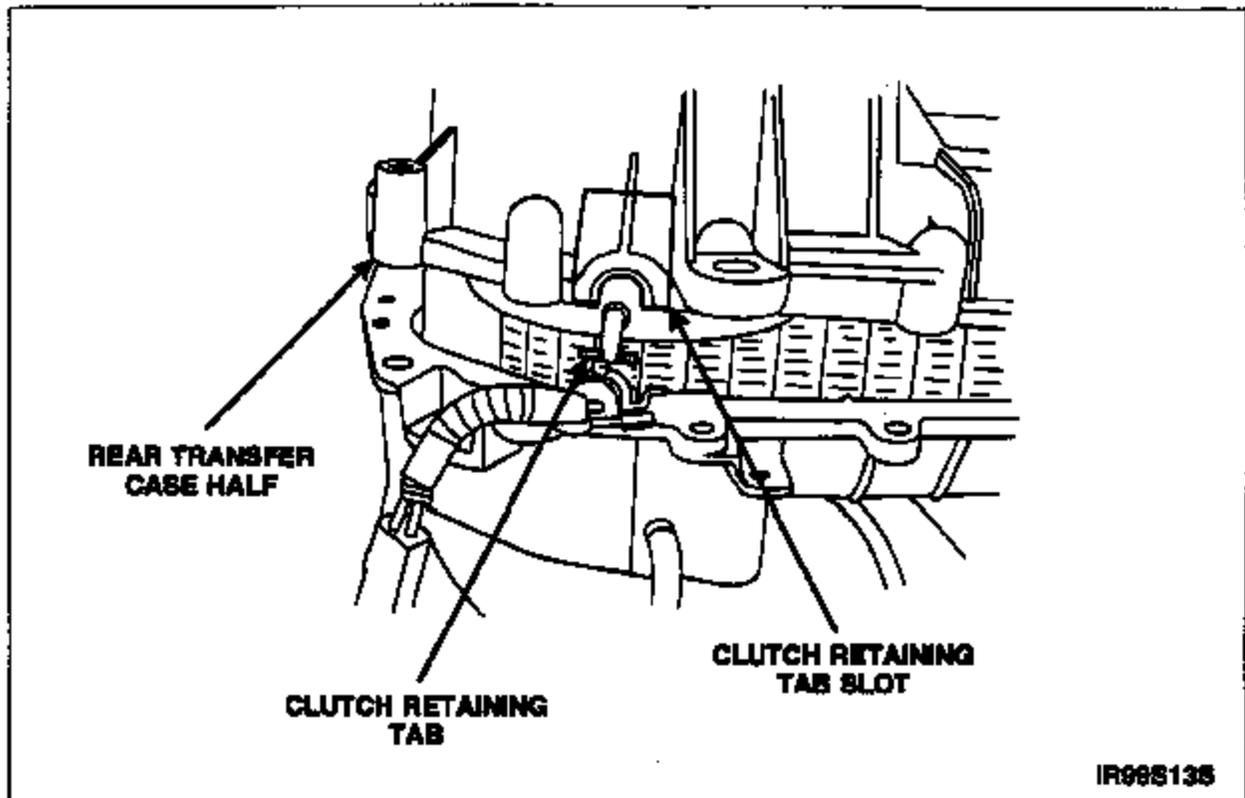

FIGURE 19
- Make sure the clutch retaining tab is aligned with the tab slot in the rear transfer case cover. See Figure 19.